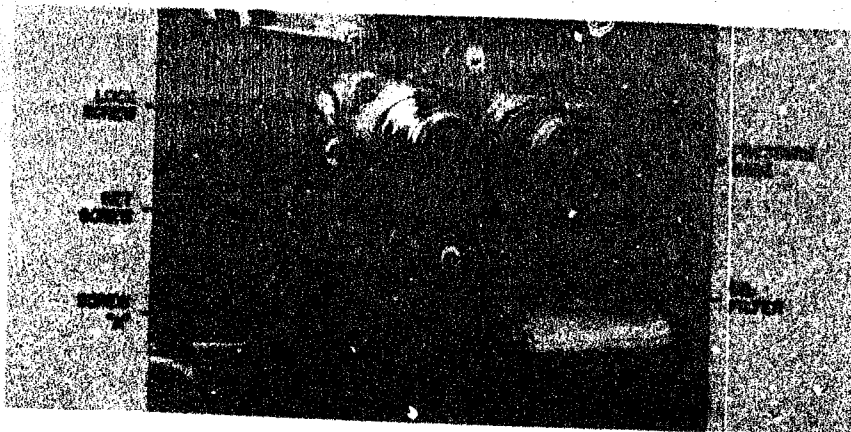

Figure 42A
2. Remove the $\frac{1}{8}$ " pipe plug from the front side of the pump, nearest the filter, (Figure 42A) and insert a pressure gage.
3. Remove the cover and cap screw shown in Figure 42A. Remove the locking screw under the cap screw and rotate the adjusting screw until the pressure registers 225 psi.